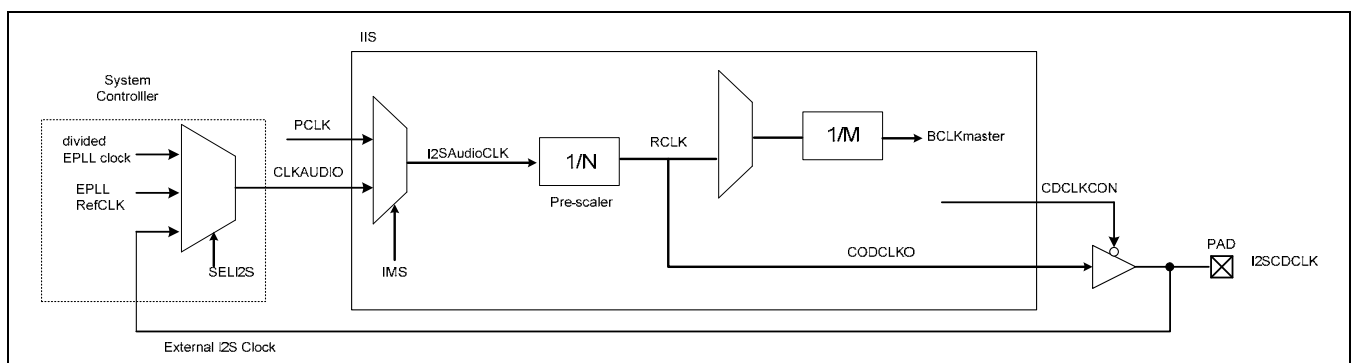

Figure 26-2. IIS Clock Control Block Diagram
Figure 26-2 shows the route of the root clock with internal master(PCLK, divided EPLL clock , EPLLRefClock) or external master(External I2S clock) mode setting in IIS clock control block and system controller. Note that RCLK indicates root clock and this clock can be supplied to external IIS codec chip at internal master mode and slave mode.(when CDCLKCON bit of IISMOD register is 1). At slave mode RCLK doesn't affect to I2SSCLK and I2SLRCLK, but for correct I2S functioning setting RFS, BFS are needed.
2. Now then, you choose clock source. S3C2450 has four clock sources. Those are PCLK, divided EPLL clock EPLLRefCLK and external codec. If you want to know more detail, refer Figure 26-2.